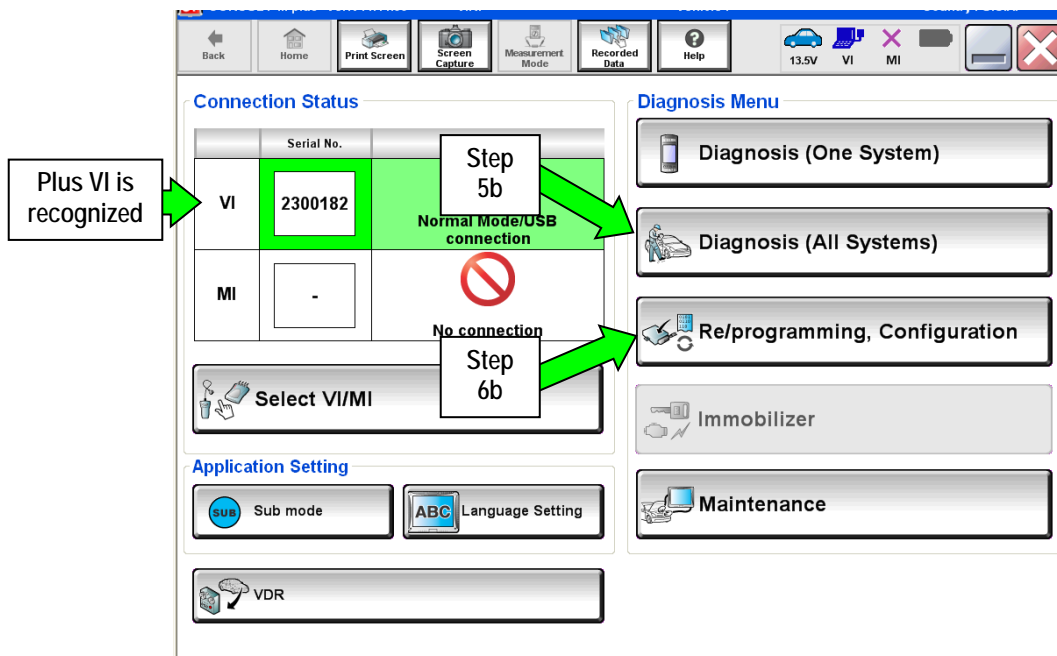

Figure 1
- Select the Home button and then YES to return to the screen shown in Figure 1.